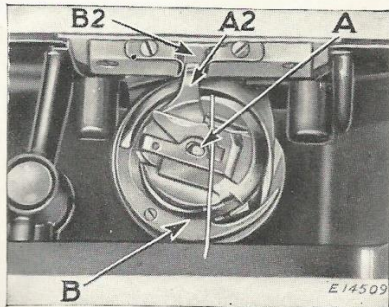

FIG. 11. BOBBIN CASE THREADED AND REPLACED
of the left hand. Place the bobbin case on the center stud (A, Fig. 11) of the bobbin case base with the thread drawing from the top of the bobbin case. Release the latch and press the bobbin case back until the latch catches the groove near the end of the stud. Allow about three inches of thread to hang free from the bobbin case and turn down the bed extension.
**CAUTION**—In case the throat plate is removed for cleaning the stitch-forming mechanism, etc., **make certain**, when replacing the throat plate, that the position finger (A2, Fig. 11) of the bobbin case base enters the notch (B2, Fig. 11) of the position plate attached to the underside of the throat plate.